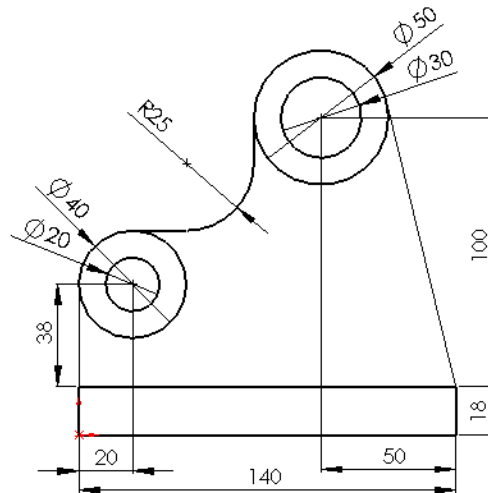

Figure 5-80 Fully defined sketch
- Create the sketch of the front view of the model, refer to Figure 5-80.
2. Apply the required relations and dimensions to fully define the sketch. The fully defined sketch is shown in Figure 5-80.